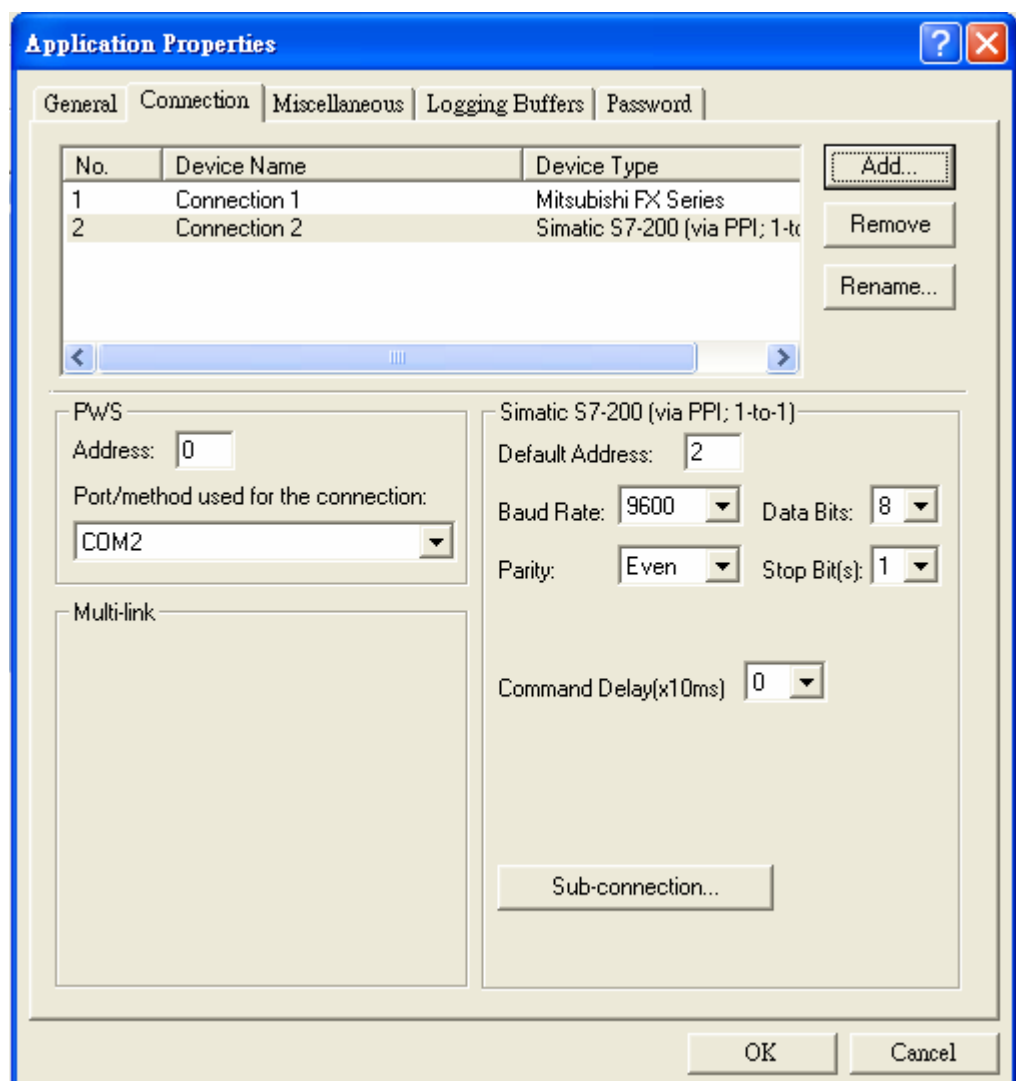

Figure 232. Set up the Connection with the second PLC
5. Follow the steps in 2. to set up the **second** PLC. Enter the addresses in the PWS's [Address] and PLC's [Default Address] box. Make the selection from the [Baud Rate], [Data Bits], [Parity] and [Stop Bits] list. See Figure 232. User can refer to Chapter 9 in the ADP User's Manual for details.